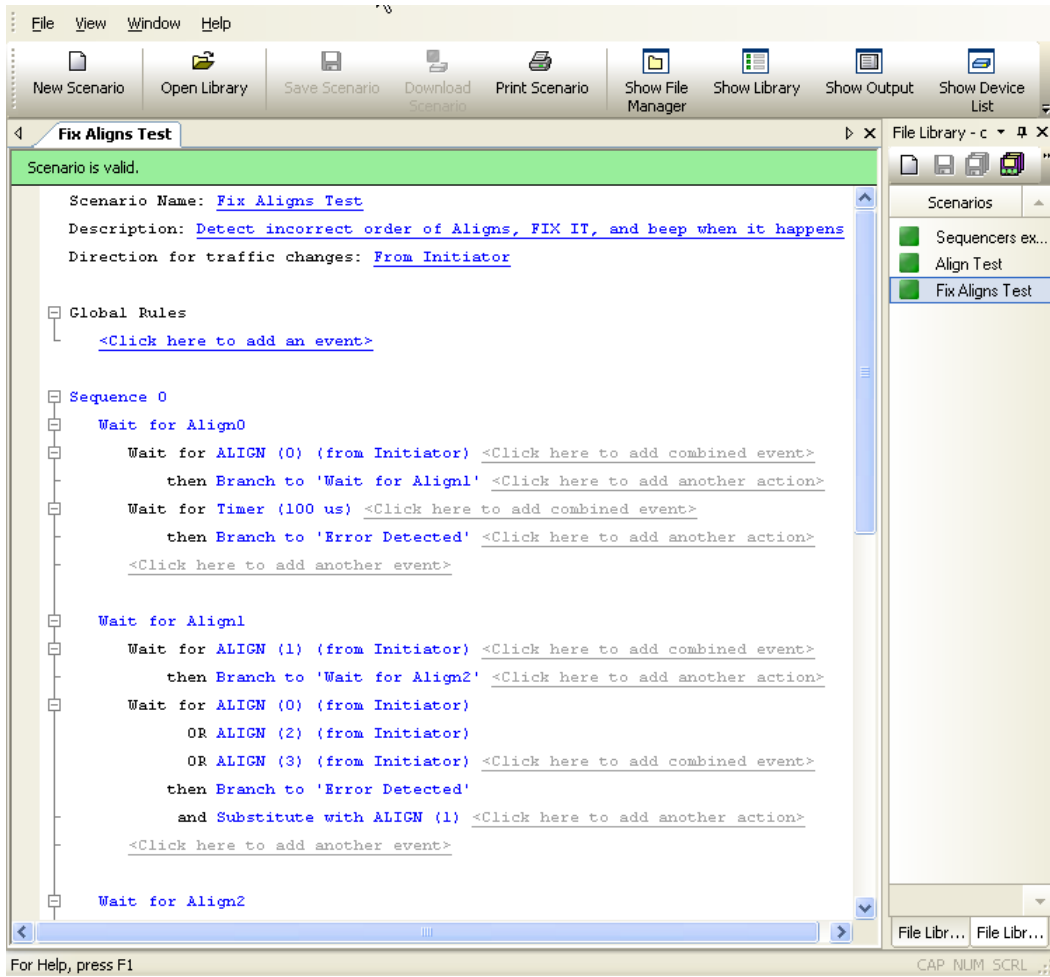
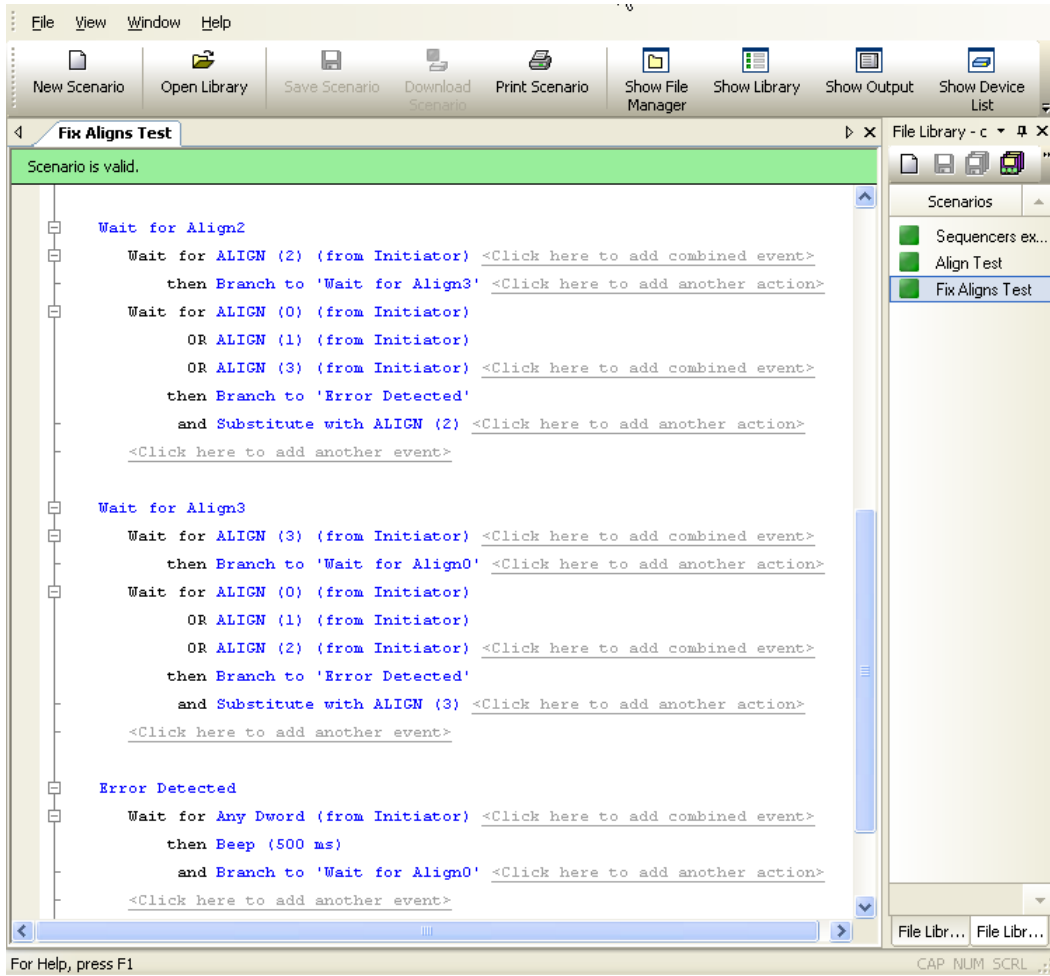

Figure 5.47 Example 9: Top Half of Scenario
Figure 5.48 Example 9: Bottom Half of Scenario
Step 3 In the File menu, select **Save Scenario** to save the scenario (Figure 5.47 and Figure 5.48).